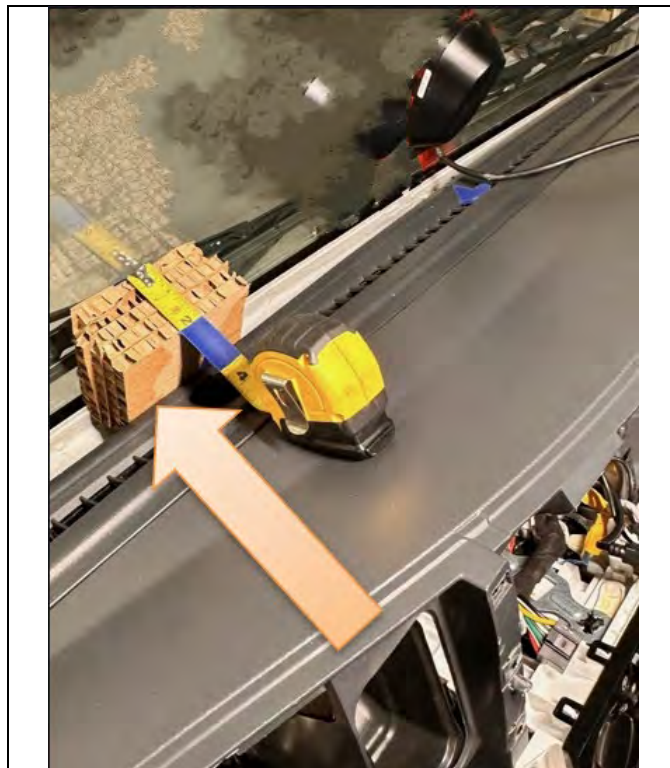

Figure 63
67. Pull the IP away from the windshield to create a 2" gap between the IP and the windshield as shown in Figure 63. Place a piece of wood, cardboard or rubber block (e.g. rubber mallet head) directly inline from the driver's right HVAC vent to maintain this gap.